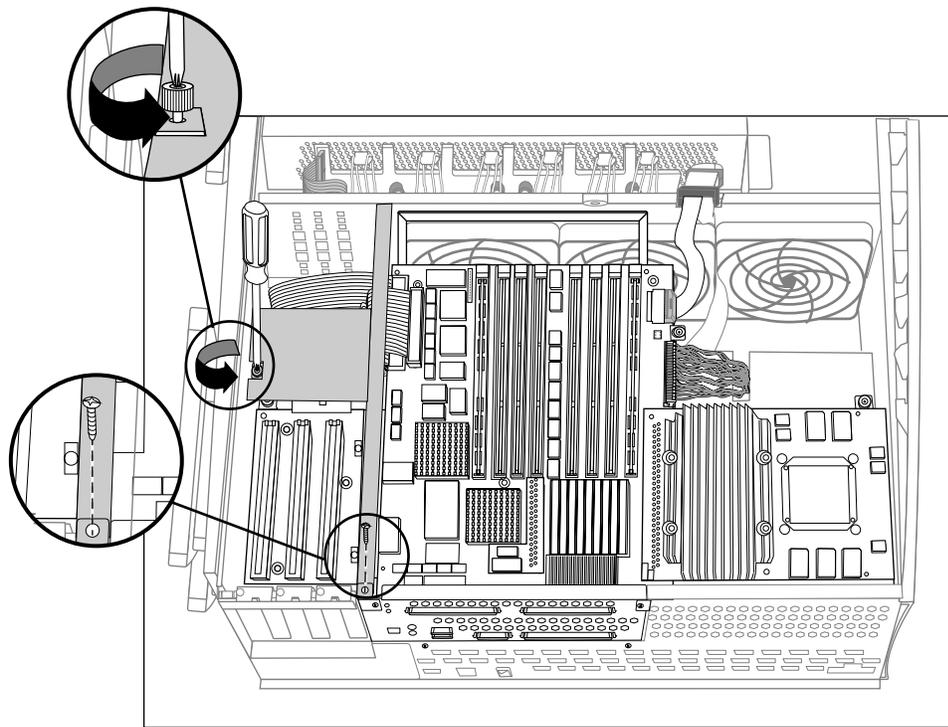

Figure 5-4 Unfastening the PCI Plenum Divider Sheetmetal
2. Using a #2 Phillips screwdriver, remove the sheetmetal screw and captive fastener that secure the PCI plenum divider and lift the divider out of the system. See Figure 5-4.